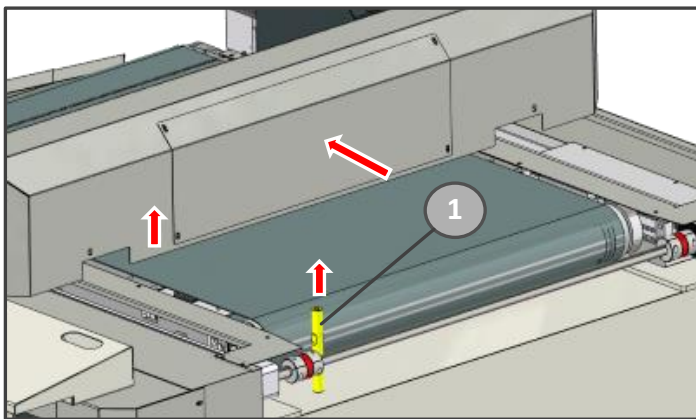

Figure 5-9
Move the beam by pushing it forward in order to free the locking pin (make sure that the casing does not remain hooked to the pin while moving, if necessary, pull the casing slightly upwards to facilitate its passage over the pin). With the aid of the 16 mm key unscrew the pin (1) until it is released from the base Figure 5-9.